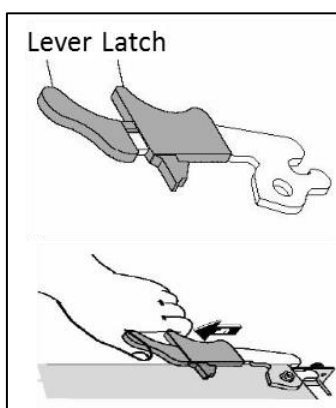

Figure 16: Using the ATCA Front panel handle.
4. Ensure that the left and right ejector handles are in the outward position by squeezing the lever and the latch together (see Figure 16).